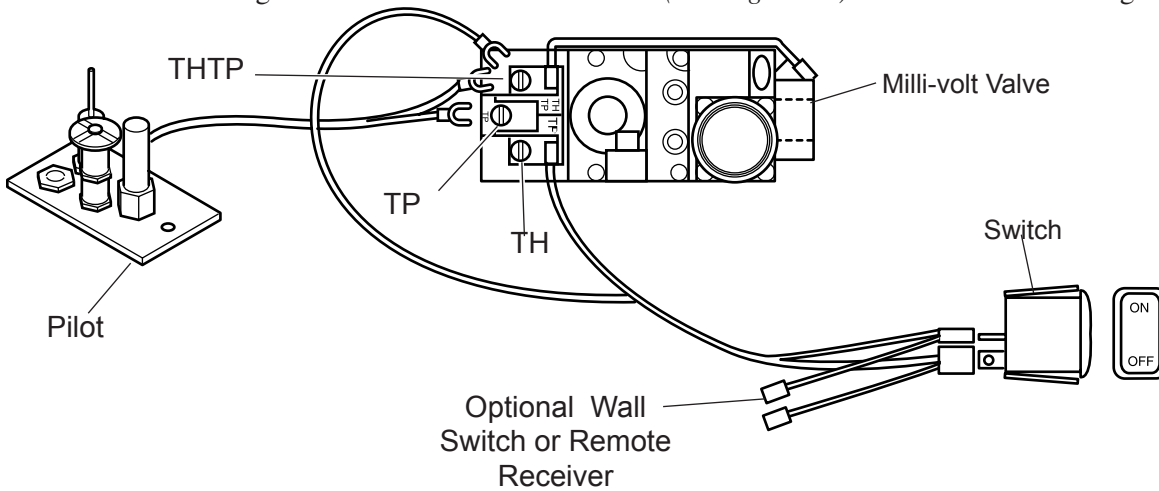

Figure 28 - Millivolt Wiring Diagram
1. Cut wire to length (approximately 5" for placement in the fireplace). Strip back ¼" of the insulation from both ends of the wire. Connect two 1/4" spade terminals to one end of the wire. Insert the opposite end of the wire into the receiver wire terminals and tighten the screws. The female terminals should be connected to the factory attached male terminals located on the right hand side of the control cover. (See Figure 28). Do not let wire touch grate and/or the burner.